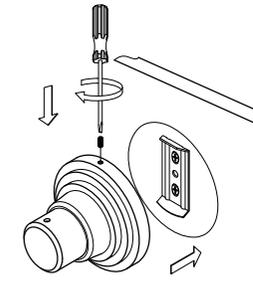

Fig. 6
- Step 5. Place the mounting unit against the mounting plate that is installed to the wall surface. Above the mounting unit there is a small screw hole, tighten the set screw with a flathead screwdriver until it is securely fixed to the wall (Fig 6).